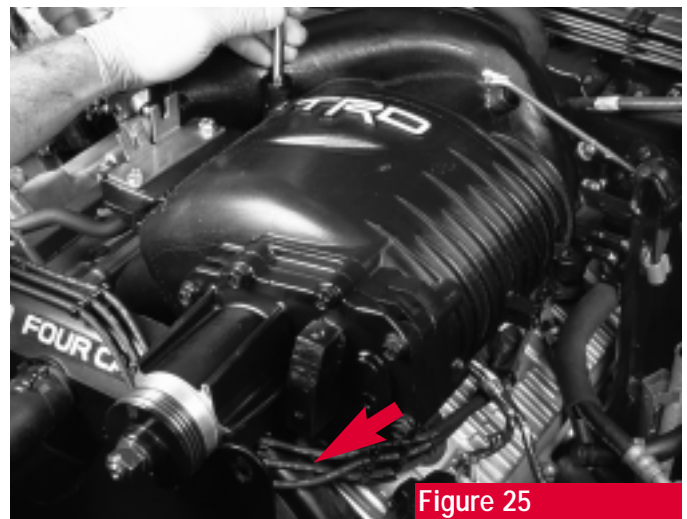

Figure 25
3. Lower the supercharger and manifold into place making sure there are no hoses or wires in the way. The ignition wires should be routed beneath the supercharger's drive housing (**see arrow, figure 25**).